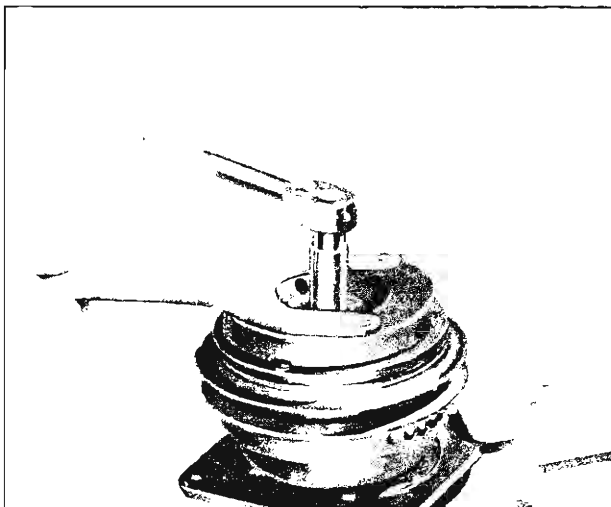

Fig. 15—Removing Shaft Locknut
2. Using drive plate holding Tool J-9403 and socket J-9399, remove the locknut from the shaft (fig. 15). Discard locknut.